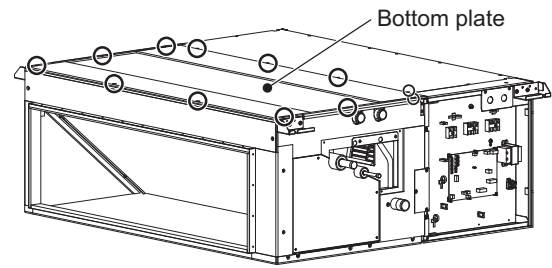

Fig.1
- (1) Remove the heat exchanger cover (A) with procedure [2]-3-1.
- (2) Remove the bottom plate which is air outlet side. (fixing screws: twelve) (Fig.1)